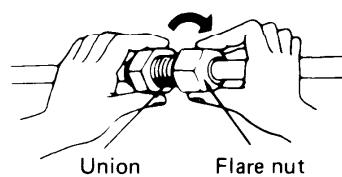

Fig. 26
- c) For proper connection, hold the tube with union and the flared tube straight with each other, screw in the flare nut lightly at first to obtain smooth match. Fig. 26